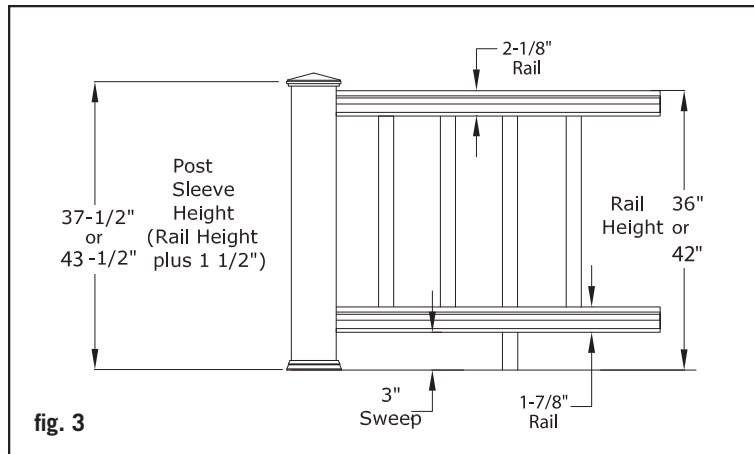

fig. 3
Step 5: Trim 4x4 post sleeves to length. Post sleeves should be a minimum of 1-1/2" longer than the railing height to accommodate a post cap (fig. 3). Example: For a 36" high railing, trim post sleeve to a minimum of 37-1/2"; can be left longer if desired. Slide a trimmed post sleeve over each 4x4 railing post. Slide a post base trim over each post sleeve.
Step 8: Assemble the lower inner rail and support block assembly. A support block is needed every 2' on-center. Check building codes for a maximum spacing between deck surface and bottom of rail (sweep). A 3" sweep is recommended, but can be more or less if codes allow (fig. 3). Trim support blocks to desired height and pre-drill 1/8" holes in the proper location. Holes must be centered on the inner rail for support blocks to fit properly. Using the support block connectors, fasten support blocks to the underside of the inner rail.
Step 11: Determine the length of the balusters (fig. 3). Fig. 3 illustrates how a 36" high railing might be sized. Starting with a 3" sweep + 2" for the bottom railing, 29" baluster height + 2" for the top rail = a 36" rail height. If these are the dimensions that you are going to use, cut the balusters to 29" length using a cut-off or miter saw. Use 35" balusters for 42" railings. If you want to have your railing at a different height, use fig. 3 as a planning tool to determine the height to cut the post sleeves and the balusters. **Note: Use a fixture to ensure a consistent length (+/- 1/16").** Trim the balusters to the required length. Install balusters on each baluster connector. Gently tap the balusters with a rubber mallet to eliminate any gaps. Check for level end to end. **Tip: Wrap painters tape around the back side of both posts and place balusters against the tape. The tape will balance the balusters in place until the upper rails are installed. Remove tape when upper rail is in place.**
Step 9: Determine the length of the balusters. Fig. 3 illustrates how a 36" high railing might be sized. Use fig. 3 as a planning tool to determine the height to cut the post sleeves and the balusters. **Note: Use a fixture to ensure a consistent length (+/- 1/16").** If using co-ex composite balusters, the baluster will need to be miter cut to the proper stair angle. Trim the balusters to the required angle (co-ex composite balusters only) and length. (One per hole in lower rail). Install balusters on each connector. Gently tap the balusters with a rubber mallet to eliminate any gaps. Check for level end to end. **Tip: Wrap painters tape around the back side of both posts and place balusters against the tape. The tape will balance the balusters in place until the upper rails are installed. Remove tape when upper rail is in place.**